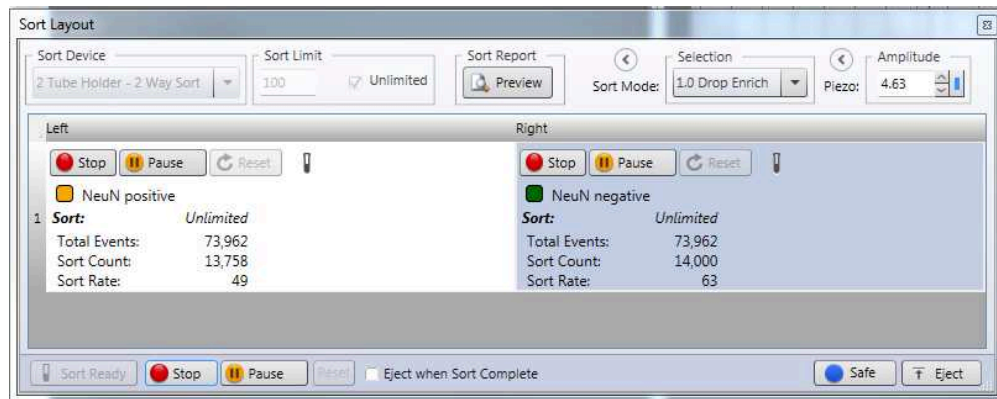

Figure 13. A screenshot of how the sort settings should be set up within the Sort Layout portion of the software software.
- 61 For the sorting, within the Sort Layout window, make sure that you have your Sort Mode set to 1.0 Drop Enrich. Select your "NeuN positive" gate for the left panel and your "NeuN negative" gate for your right panel (**Figure 13**). Make sure both are set to *Unlimited*. Place your labeled Lo-Bind autoclaved tubes into the corresponding sort collection tube positions within the machine.